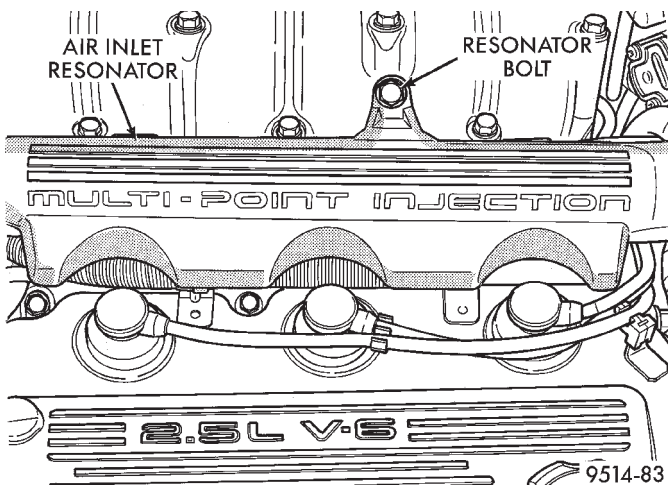

Fig. 94 Air Inlet Resonator
- (1) Remove bolt holding resonator to intake manifold (Fig. 94).